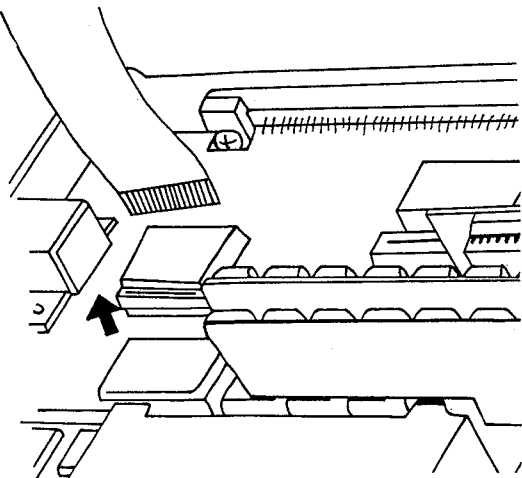

Fig. 5.3
- Unlock screws (A) and remove the coverplate.
- Remove the flat-cable to the LCD-display by lifting the connector and sliding the cable out, see Fig. 5-3.